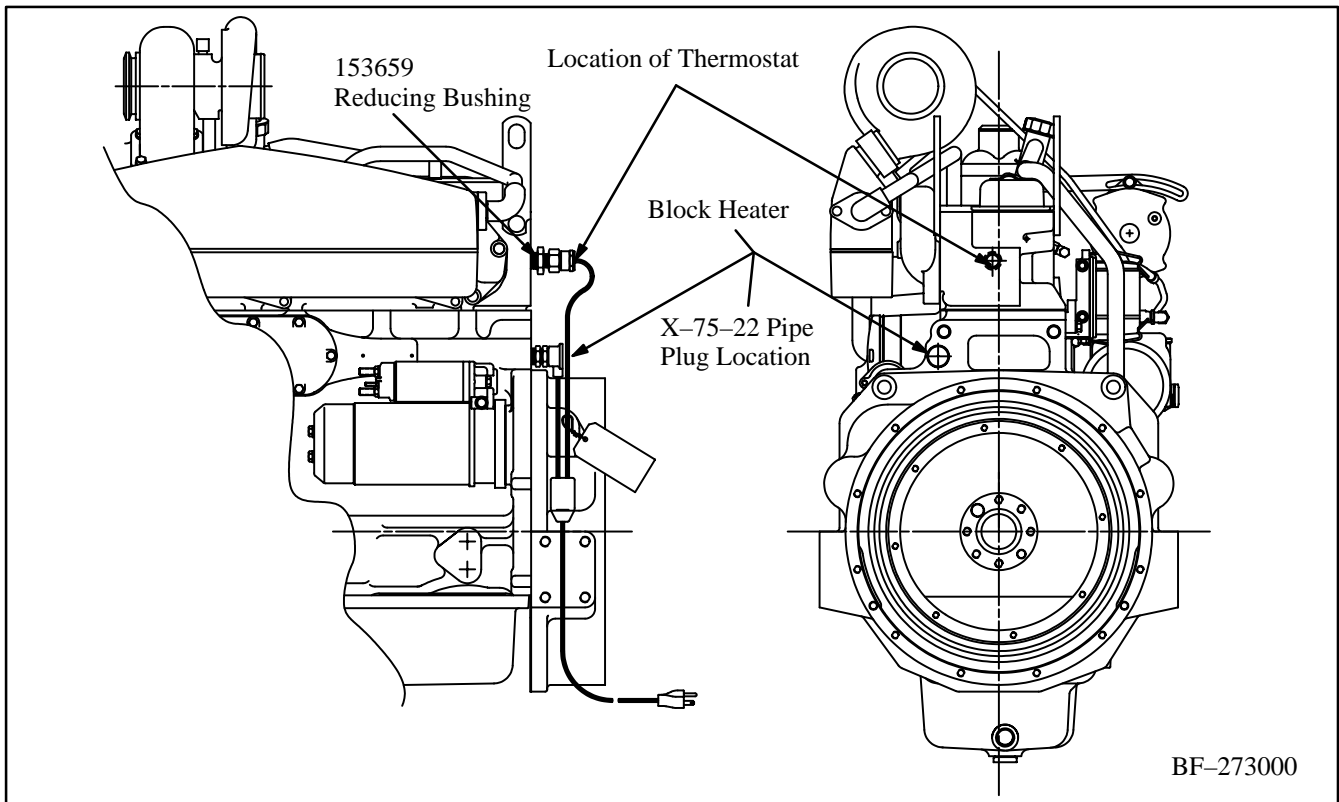
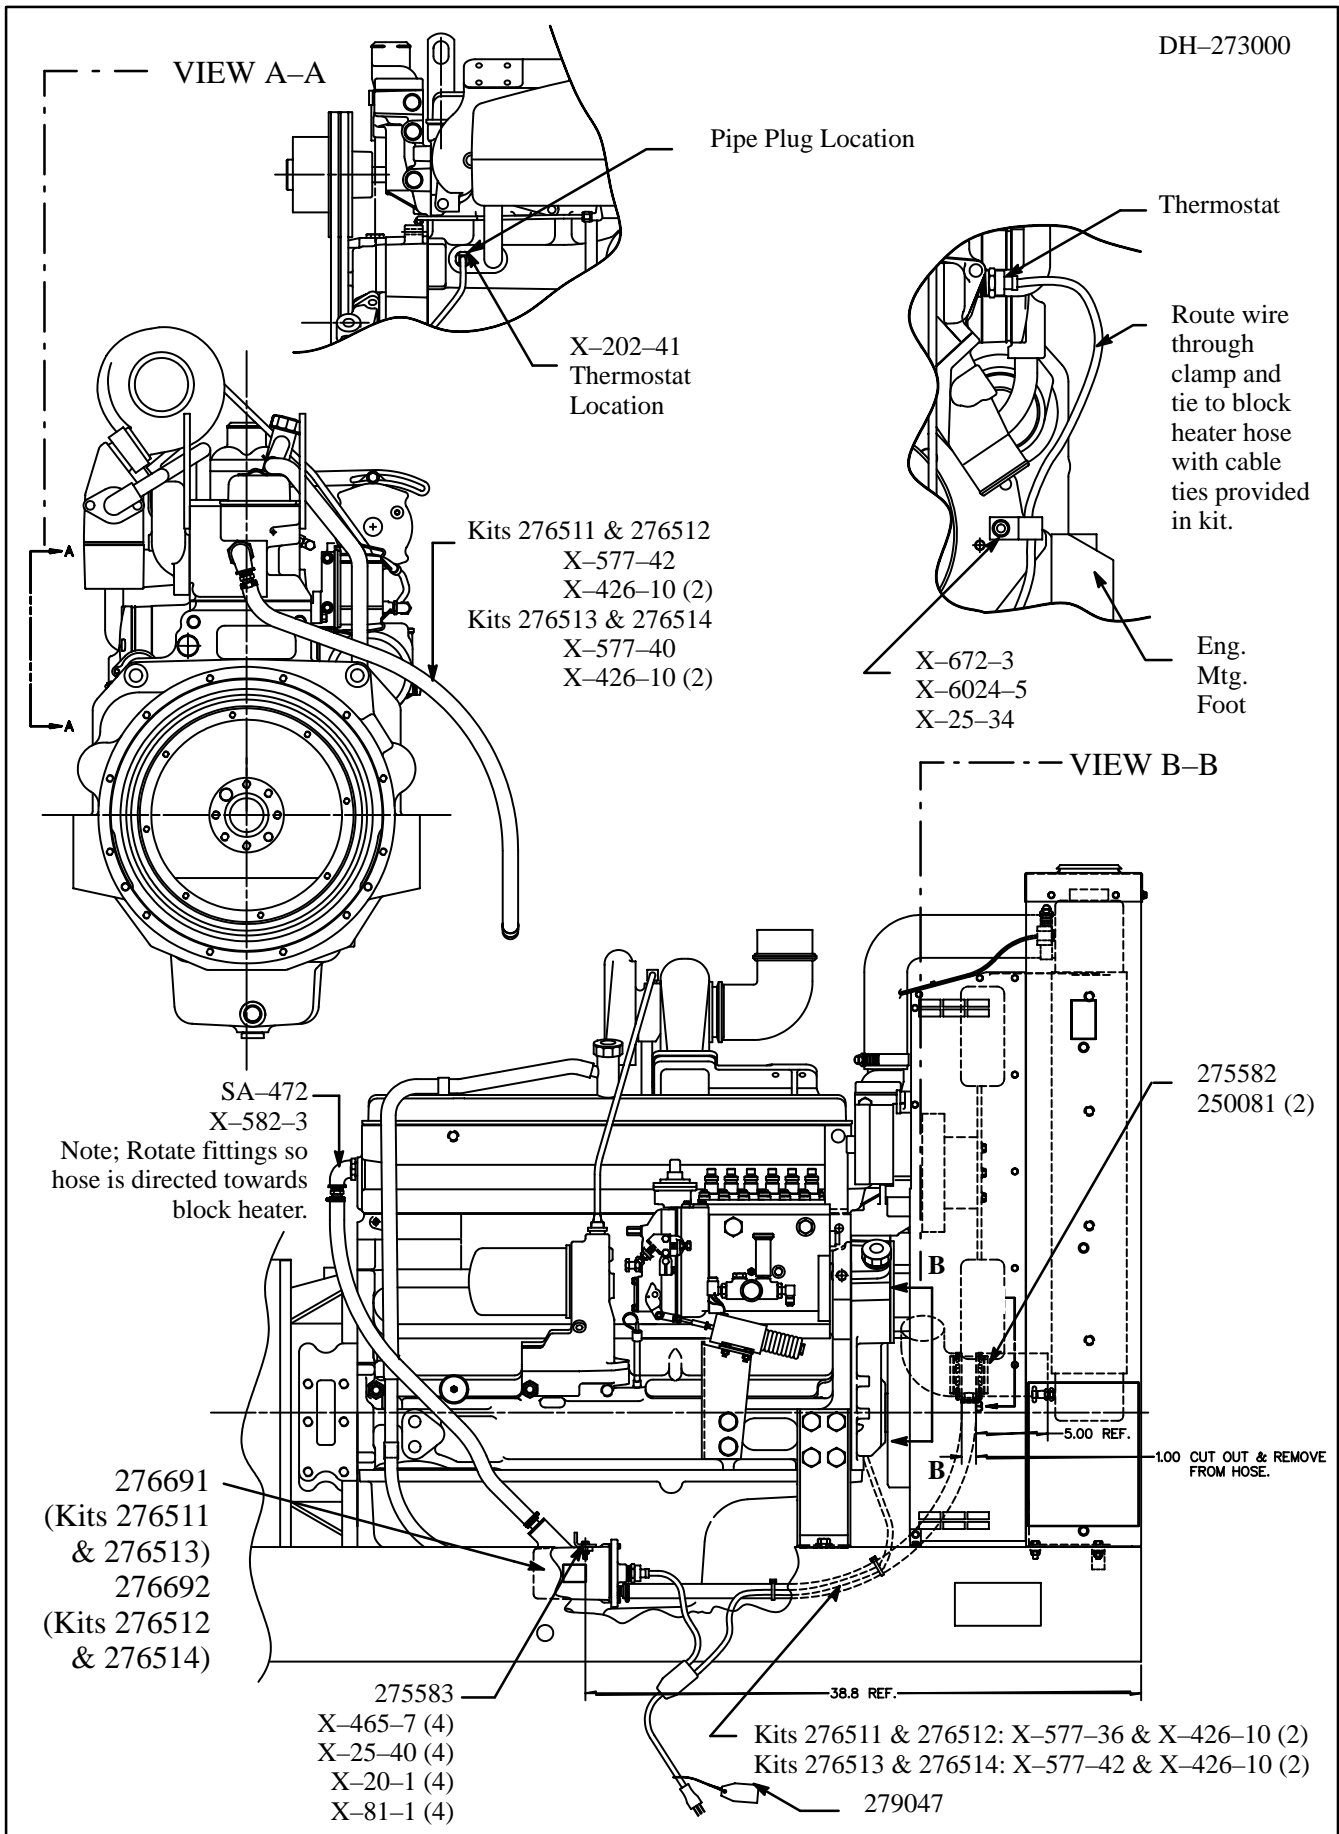

Figure 1. Block Heater Kit Removal (Immersion Type)
Figure 3. Block Heater Installation
This service kit details removal of the immersion type block heater (or earlier version tank-type block heater) and installation of a new tank type block heater kit. These instructions cover the installation of several block heater kits. In instances where two different part numbers are mentioned, refer to Figure 3 to determine which part number applies to your application.
3. Remove electrical connections to block heater and thermostat. Discard electrical connections. These parts will not be reused. See Figure 1.
4. Remove immersion-type block heater from engine block and discard. These parts will not be reused. Clean threads on engine and apply pipe sealant to 1 in. pipe plug (X-75-22) and install into block. See Figure 1.
5. Remove thermostat and reducing bushing (153659) and discard. These items will not be reused. Attach elbow (SA-472) and hose connector (X-582-3). See Figures 1 & 3. Rotate fittings so hose is directed towards block heater.
12. Position thermostat at location shown in Figure 3 (view A-A), by first installing reducer bushing (X-202-41). Route wire through clamp (X-672-3). Install insulator clamp (X-672-3) using washer (X-25-34) and screw (X-6024-5). Tie wire to block heater hose with cable ties provided in kit. See Figure 1, view B-B.